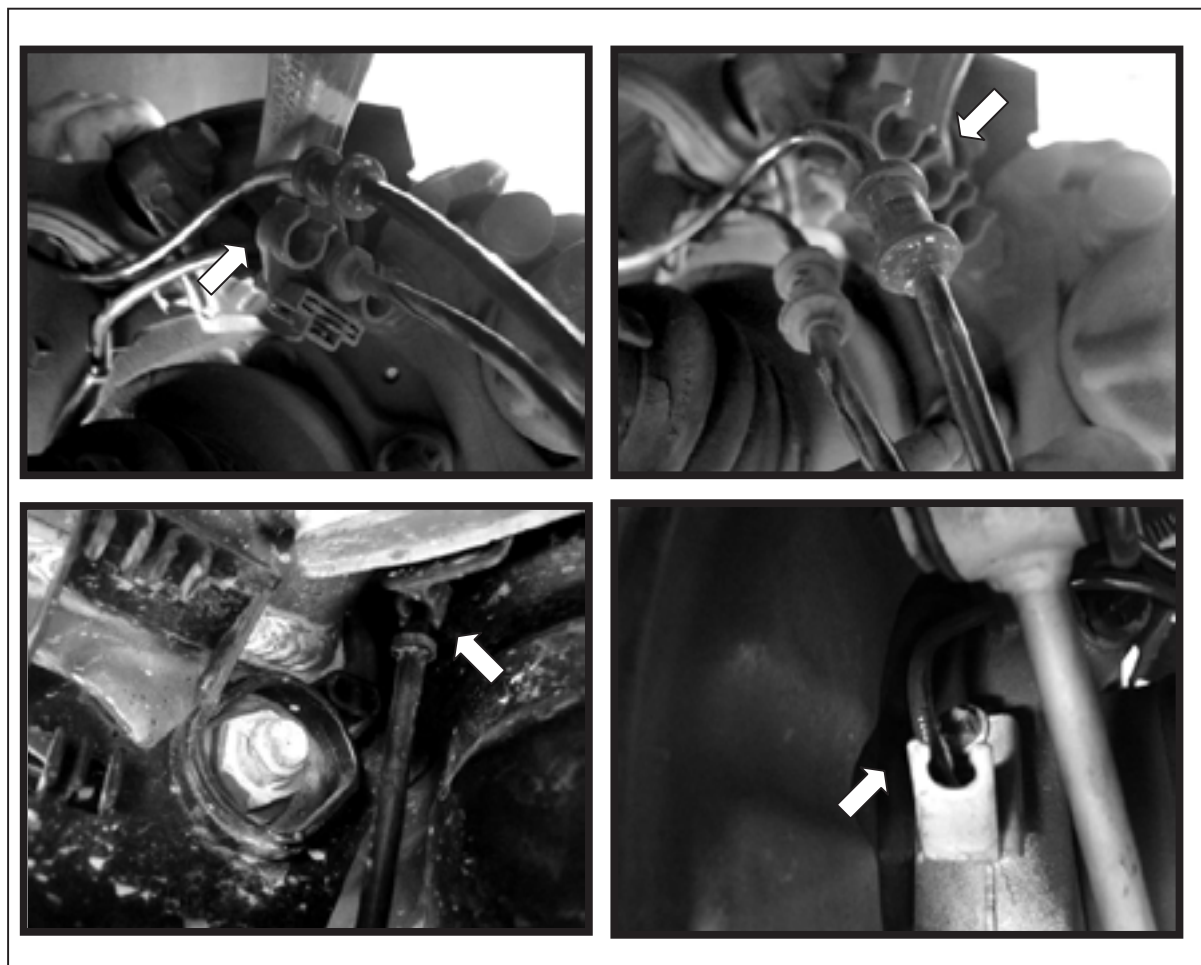

FIGURE 10-7
10.0 REMOVE SENSOR LINES FROM BRACKETS. (FIGURE 10-7)